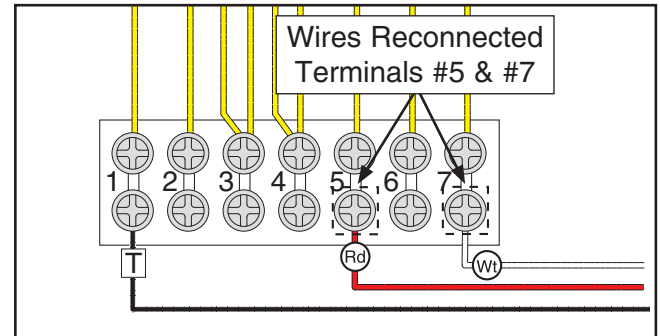

Figure 12. Welding transformer rewired for 220V.
- Remove the wire connected to the #4 terminal on the welding transformer and move it to the #7 terminal; remove the wire connected to the #2 terminal and move it to the #5 terminal (see **Figure 12**). The machine is now wired for 220V.